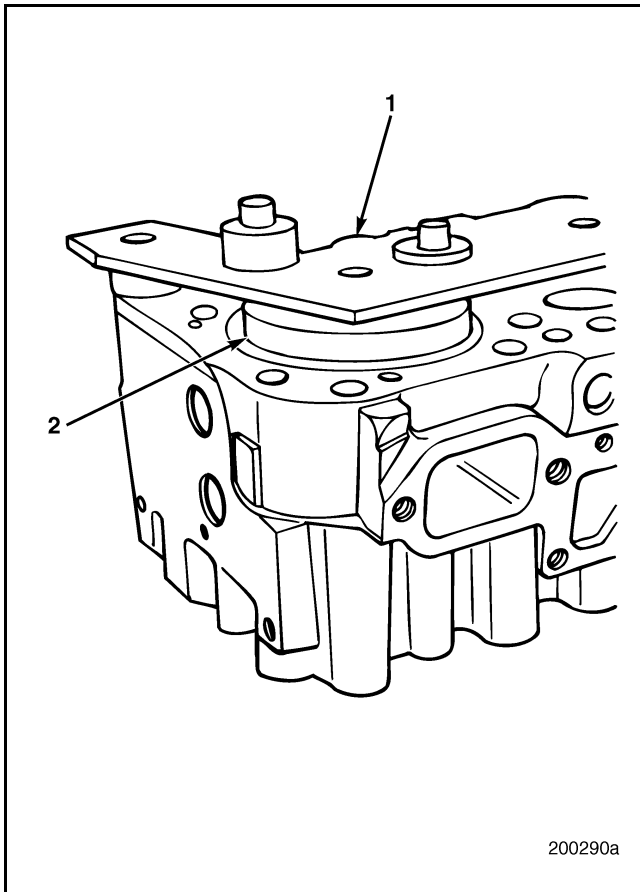

Figure 183 — Alignment Fixture Placement
3. Place the alignment fixture over the cutter base as shown in Figure 183 to ensure proper positioning. With the fixture in place, tighten wing nuts on the hold-down capscrews. Remove the alignment fixture.